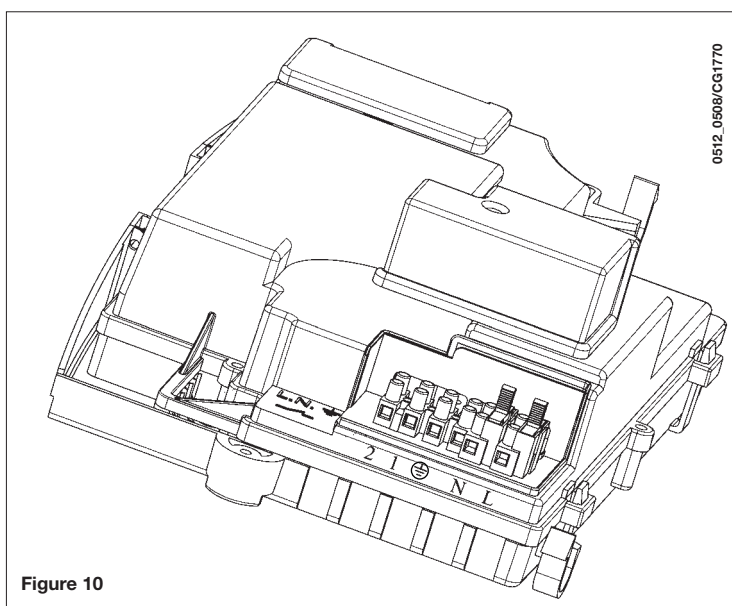

Figure 10
- unscrew the lid and gain access to the wiring (Figure 10).
- Access the power supply terminal block (figure 10);
- connect the room thermostat cables to terminals (1) e (2);
If the ambient thermostat is not used, jump terminals **1-2** on the **M1** terminal block (figure 10).